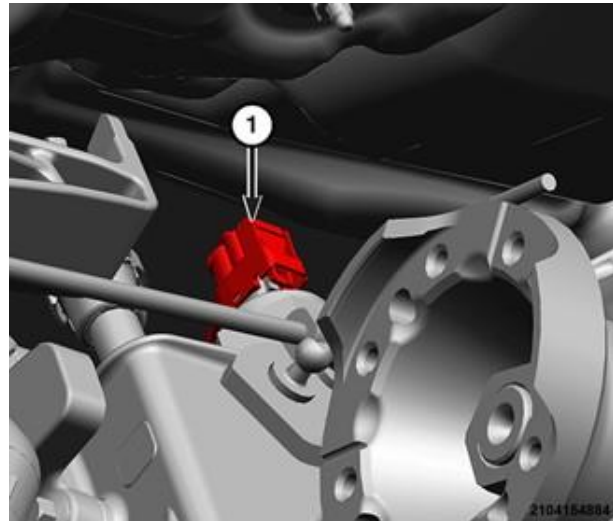

Figure 18 – Electrical Connector
22. Disconnect the wire harness connector (1) from the transfer case position sensor (Figure 18).